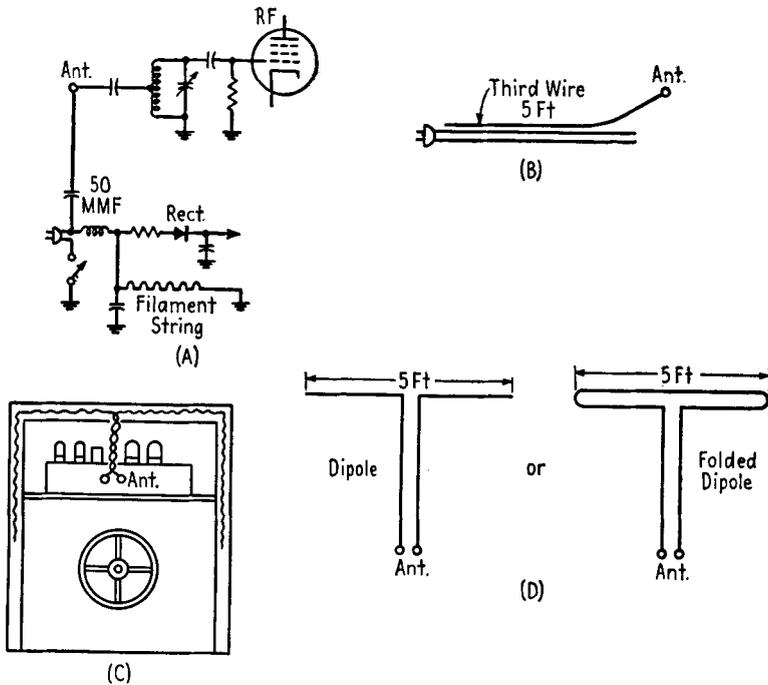

FIG. 24-14. Various F-M antenna systems.
**The F-M receiver antenna.** Many types of antennas are in use with F-M receivers today. Although reception is possible without any specific antenna, the need for a strong signal makes one desirable. Several common antennas are shown in Fig. 24-14. The antenna installation of Fig. 24-14A is frequently used. It consists simply of a 50-mmfd condenser connected from the antenna post of the receiver to the power line cord.